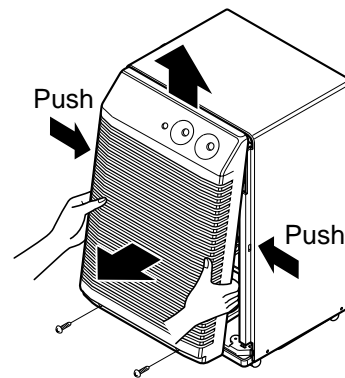

Figure 6
2. By pushing both sides front grille, pull the front grille forward and upward. (See Figure 6)